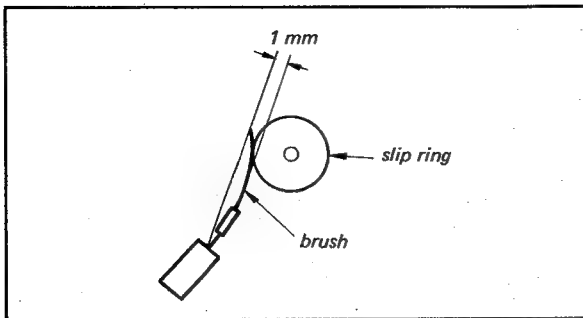

Fig. 4-6.
15. Tighten the brush pressure adjusting screws to obtain a 1 mm bend (approximately) as shown in Fig. 4-6. Inspect the brush and slip-ring assembly to make sure that the brushes are centered in the slip rings.